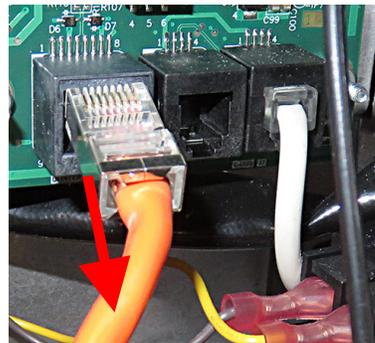

Figure 27
33. Disconnect the orange harness from the controller to the SIB board, to ease attaching OQS sensor adaptor (see Figure 27).